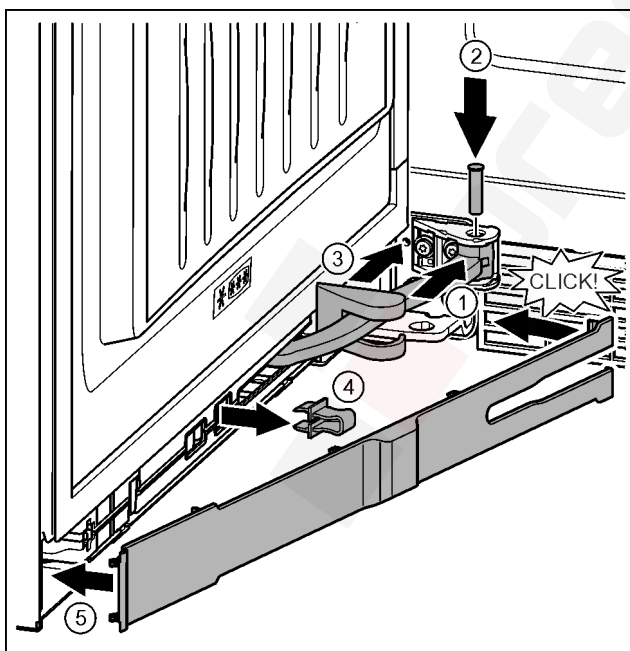

Fig. 45
- ▶ Turn the hinge in the mount. Fig. 45 (1)
- ▶ Insert the bolt with a T15 screwdriver in the mount and hinge. Make sure that the catch mechanism is sitting correctly in the groove. Fig. 45 (2)
- ▶ Push the bearing bracket cover along the hinge and fit on the mount. Fig. 45 (3)
- ▶ Remove the locking device. Fig. 45 (4)
- ▶ Position the panel on the handle side and swing it in. Fig. 45 (5)